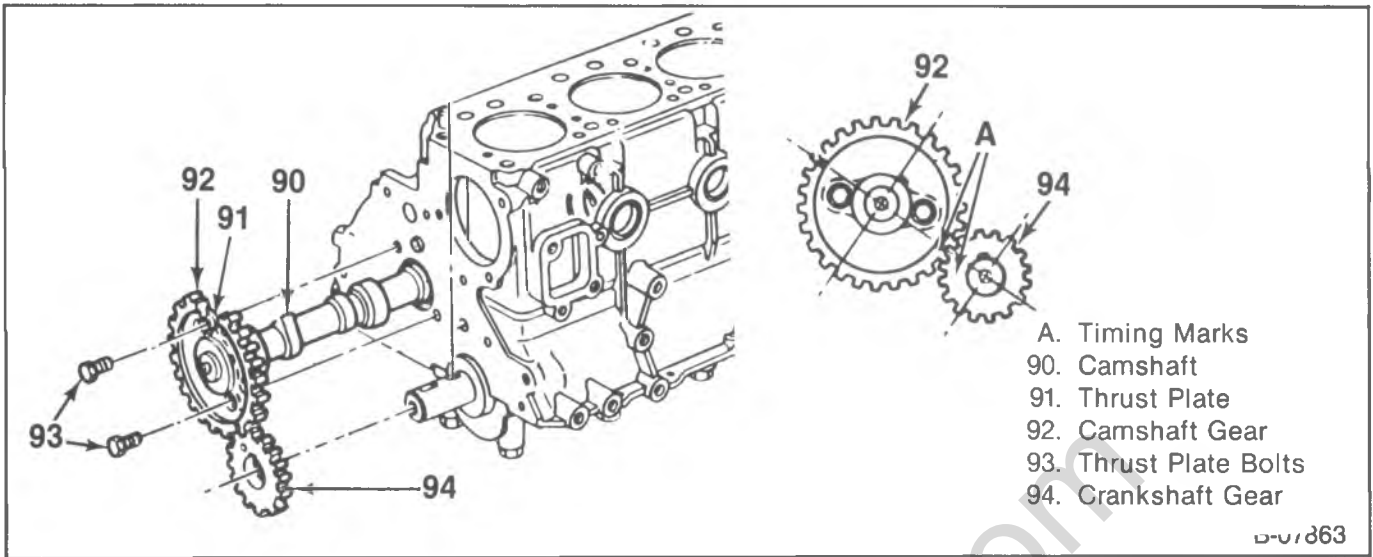

Figure 27—Camshaft And Components
Remove or Disconnect (Figures 27 and 28)
- Align the timing marks (figure 27).
Install or Connect (Figure 27)
- Line up the timing marks on the crankshaft gear and camshaft gear (figure 27).
2. Thrust plate bolts (94).